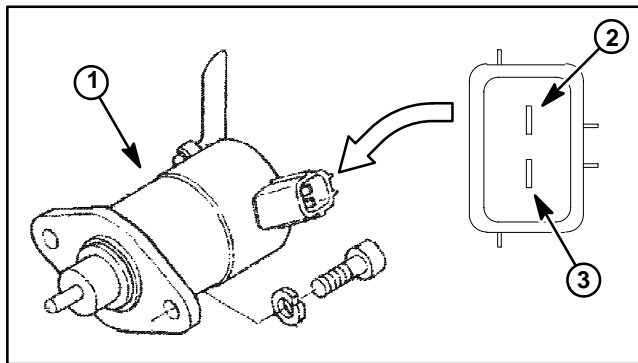

Figure 25
2. Using a digital multimeter, touch one test lead to the pull coil terminal and the other test lead to the fuel stop solenoid frame (ground) (Fig. 25). The resistance of the pull coil should be less than 1 ohm (but not zero).
3. Using a digital multimeter, touch one test lead to the hold coil terminal and the other test lead to the fuel stop solenoid frame (ground) (Fig. 25). The resistance of the hold coil should be approximately 15 ohms.
4. Touch a negative (–) test lead from the 12 VDC source to the fuel stop solenoid frame (ground) (Fig. 25). The solenoid should engage, making an audible “click,” and the plunger should retract.